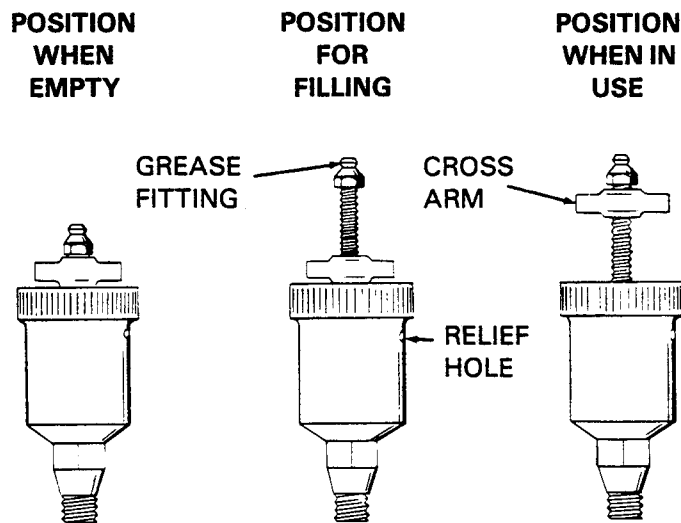

Figure 5. Automatic Lubricating Grease Cup
Before removing the seal assembly, turn the cross arm on the seal grease cup (17) clockwise until it rests against the cover (see figure 5). This will prevent the grease in the cup from escaping after the seal is removed.
Before starting the pump, fill the grease cup through the grease fitting with a good grade of No. 2 pressure gun grease until grease escapes from the relief hole. Turn the grease cup arm counterclockwise until it is at the top of the stem; this will release the spring to apply grease to the seal (see figure 5).